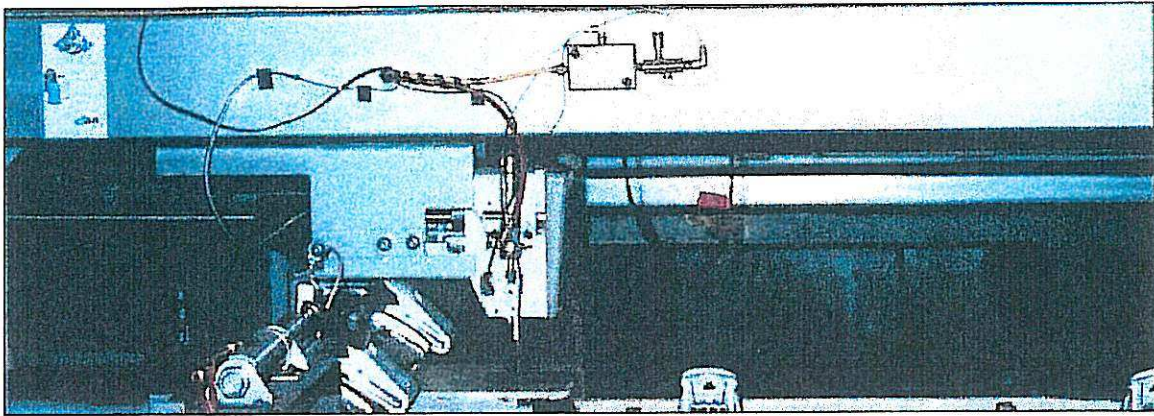

Figure 2.9
- N. Place the right Y-rail as far right as you can keeping it 6" from the sew head. (this becomes your 0 reference). See *Figure 2.9*.